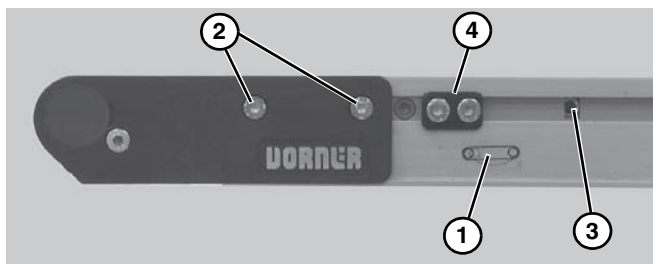

Figure 25
- On tension end of the conveyor, identified with a  label (**Figure 25, item 1**): On both sides of conveyor, loosen fastening screws (**Figure 25, item 2**) and rotate pinion gear (**Figure 25, item 3**) to adjust head plate assembly.
3. After adjusting proper tensioning, tighten fastening screws (**Figure 25, item 2**) on both sides of conveyor to 60 in-lb (7 Nm).
4. If equipped with cam tracking assemblies (**Figure 25, item 4**), position against head plates and adjust belt tracking. Refer to “Conveyor Belt Tracking” on page 13.